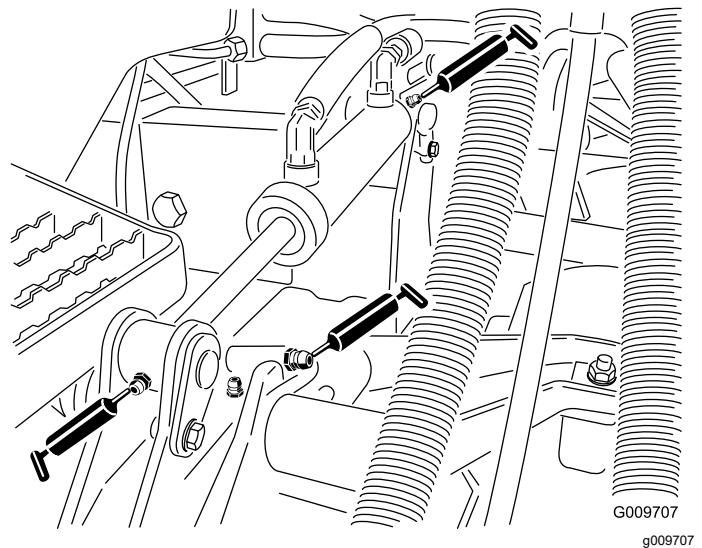

Figure 39
- Lift-arm bushings (1 per cutting unit) as shown in Figure 39
- Lift-cylinder bushings (2 per cutting unit) as shown in Figure 39